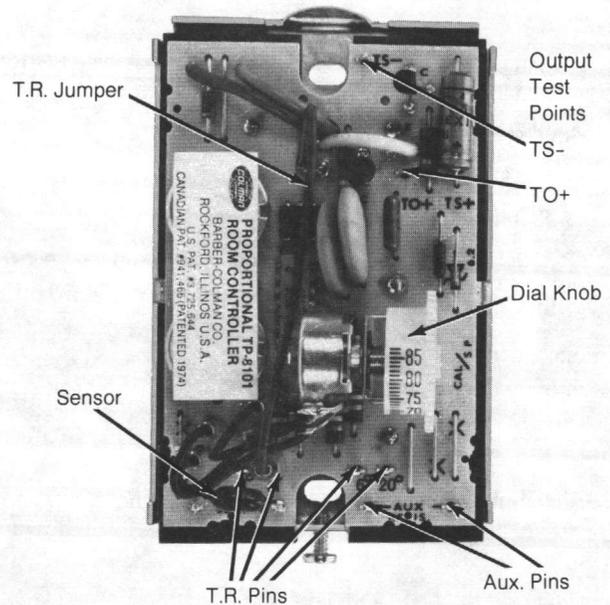

Figure 8
2. Throttling range settings of 2, 3, 6 and 20° are available by placing the T.R. jumper on the proper selector pin. See Figure 8. For other throttling ranges (1 through 60°) add a resistor to the auxiliary pins. Select the resistor from the chart below. Place the T.R. jumper on the auxiliary pin nearest the center of the controller.